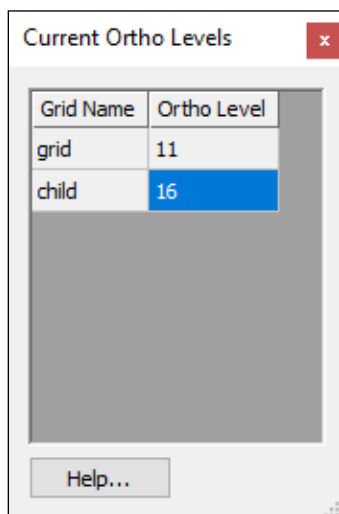

Figure 8 Current Ortho Levels dialog
7. On the *Mini Grid Toolbar*, turn on *Multiple grids* to bring up the *Current Ortho Levels* dialog (Figure 8).